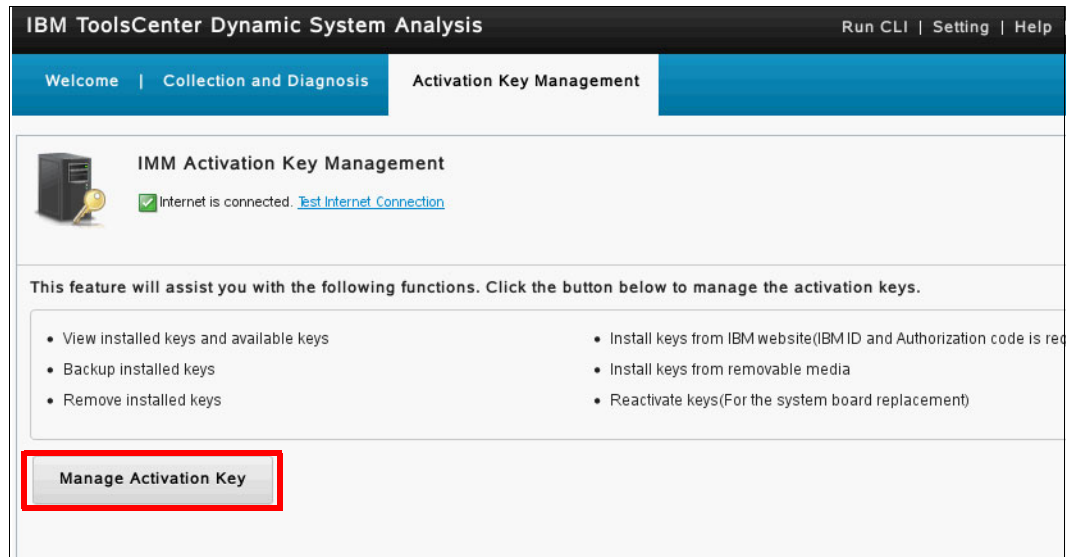

Figure 3-17 IMM Activation Key Management
7. Select **Manage Activation Key**, as shown in Figure 3-17.